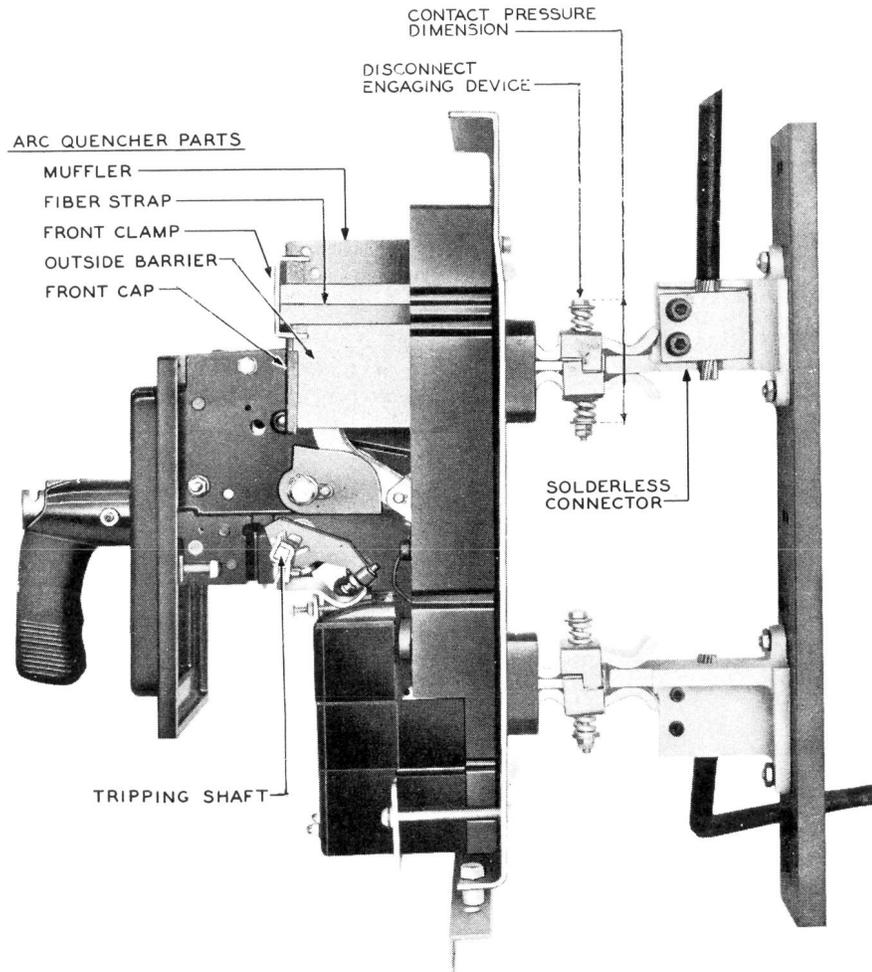

Fig. 2 – Side View of Breaker Showing Disconnect-devices Engaged
***#2.03 Disconnect Engaging Device:** See Fig. 2—
2.09 Solderless Connectors: See Fig. 2 — The solderless connectors should be retightened periodically until no further take-up can be obtained.
(1) These devices are located on the rear of the breaker. It will be necessary to remove the breaker from its case to obtain access to them. See 3.02 and Fig. 2.
(2) The contact pressure of these devices is adjusted at the factory, but if changed, readjust by holding the top bolt with an adjustable wrench and adjusting the nuts at the bottom of the bolt with a 7/16-inch open-end wrench to bring the dimension between washers within the requirement. Tighten the locknut when adjusted.